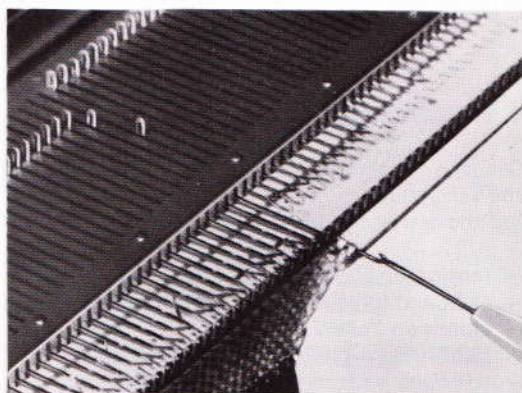

Fig. 103
2. Pull the needle forward until the 2 stitches slip behind the latch (fig. 103).